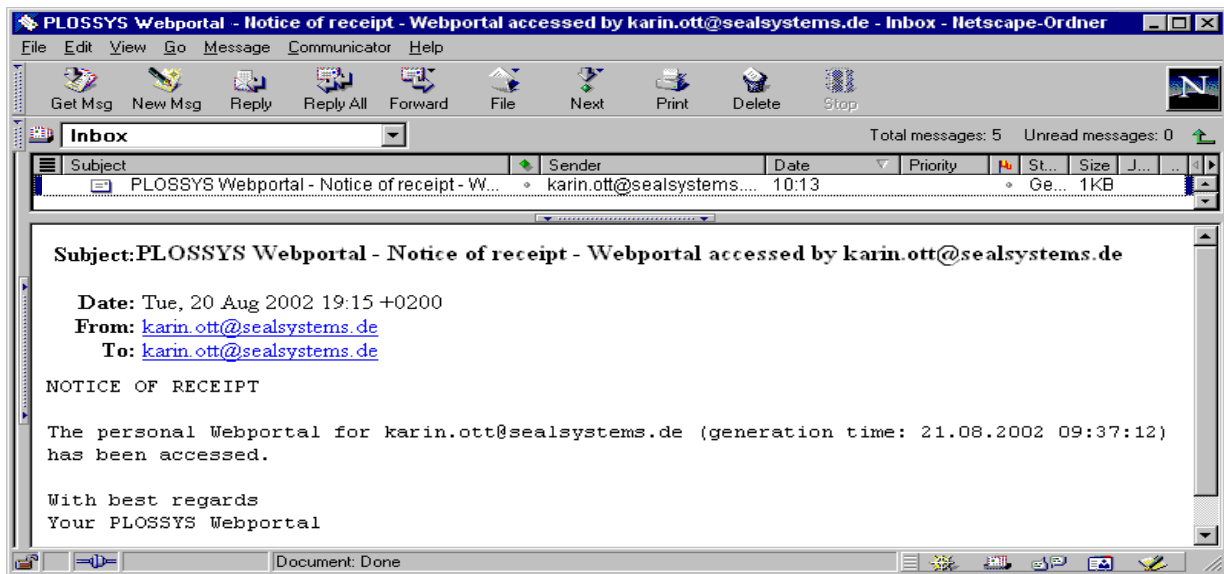

Figure 2-4. E-mail Acknowledgement of Receipt (Recipient has Entered the Web portal)
10. After the recipient obtained the mail and has activated the URL in the mail, an **acknowledgment of receipt** is sent away to the client, see Figure 2-4, page 9.